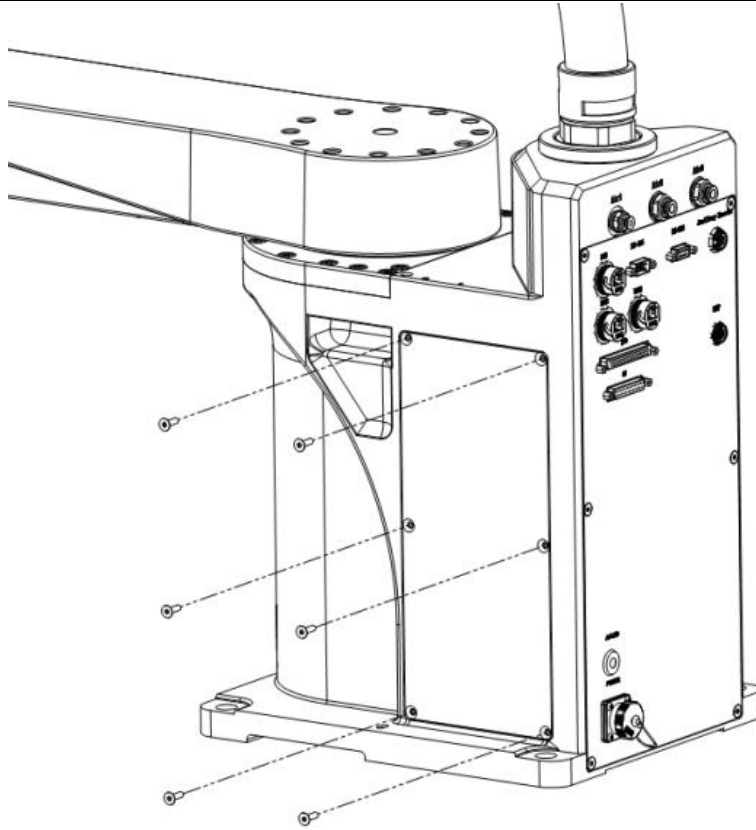

Figure 4-9 Removal of fastening screws
Step 1 Use the M3 Allen wrench to loosen the fastening screws on the side door of the base, as shown in Figure 4-9.